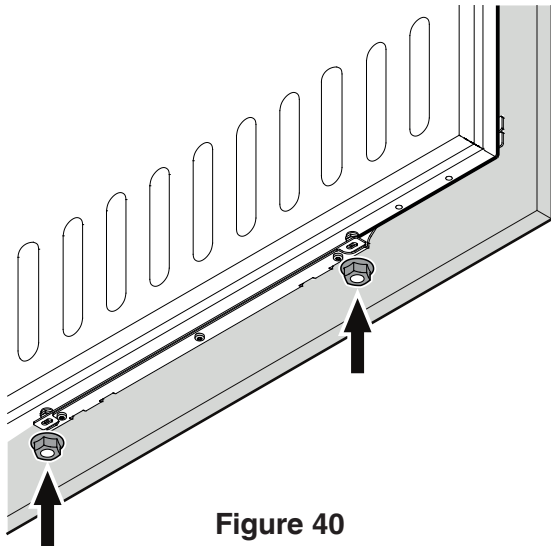

Figure 40
9. Screw on the hex nuts and tighten (Figure 40).